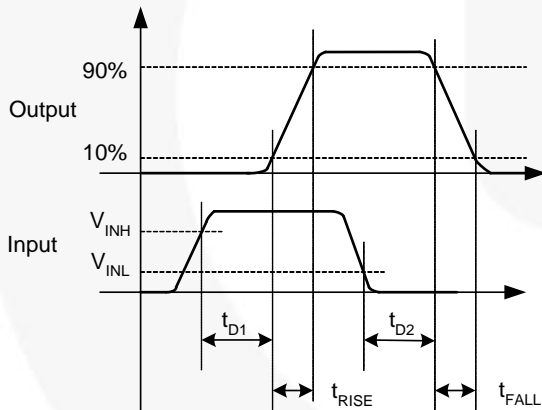
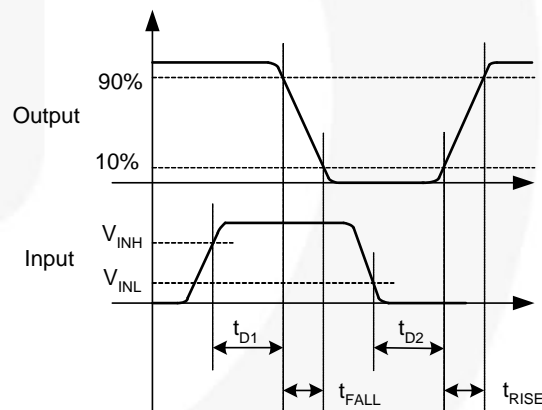

Figure 6. Non-Inverting Timing Diagram
Figure 7. Inverting Timing Diagram
- 11. See Timing Diagrams of Figure 6 and Figure 7.